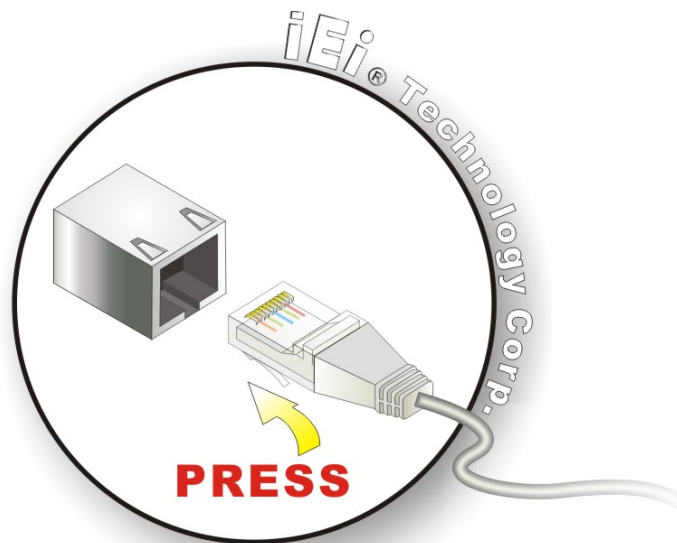

Figure 4-18: LAN Connection
Step 2: **Align the connectors.** Align the RJ-45 connector on the LAN cable with one of the RJ-45 connectors on the WAFER-945GSE. See **Figure 4-18**.